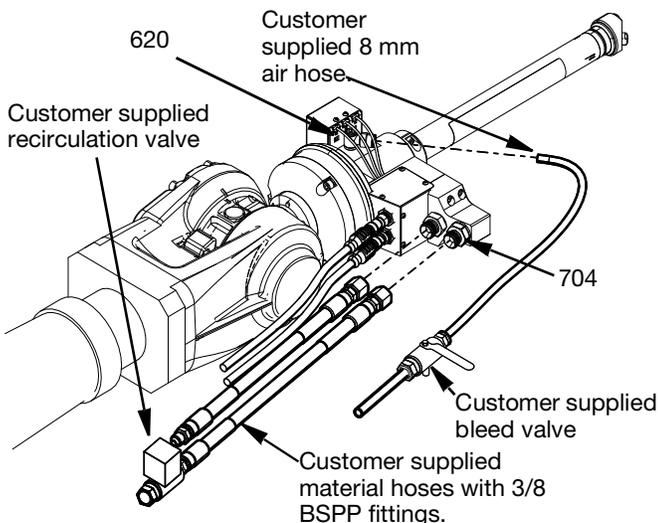

FIG. 7
The air supply is connected to the Switch 3D Gun with an 8 mm polyurethane hose to the elbow swivel fitting (620) on the side of the swivel housing (619). Customer must install air bleed valve between air supply and Switch 3D Gun connection. See FIG. 7.
The material supply and return hoses use 3/8 BSPP connectors. The material supply hose is connected to the port marked "Inlet". The material return hose is connected to the port marked "Return Inlet 2". (If no circulation is selected, the Return Inlet 2 port is plugged with a 3/8 BSPP plug (132879). If dual materials are selected both connections are inlets (no return possible). See FIG. 7.
- e. Open the customer supplied recirculation valve and purge the material through the valve until all trapped air in the material return is removed. See FIG. 7.
3. Relieve all air pressure in the air lines by shutting off the Customer supplied bleed valve. See FIG. 7.
4. If the nozzle tip or material hose is clogged or if pressure has not been fully relieved after following the steps above, very slowly loosen the customer supplied material hose from the 3/8 in. BSPP inlet fitting (704), (see FIG. 7).